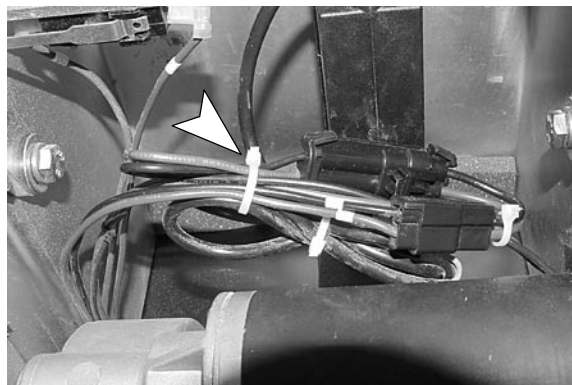

Fig. 7
9. Secure the transaxle wire adapter with wire-ties supplied (Figure 7).